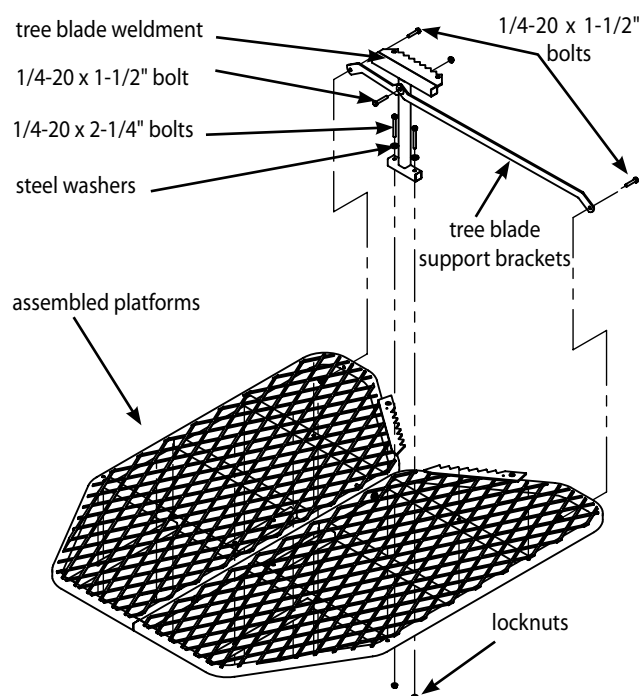

Figure 4
6. Attach the tree blade weldment (112ML73) to the top side of assembled platforms (near welded on platform tree blades) using (2) provided 1/4-20 x 2-1/4" bolts, locknuts and steel washers. **SEE FIGURE 4.**
7. Attach (2) tree blade support braces (112ML76) to the front side of tree blade weldment and back side of the assembled platforms using (3) 1/4-20 x 1-1/2" bolts and (3) locknuts. **SEE FIGURE 4. Pay special attention to the orientation of the support braces shown in Figure 4.**